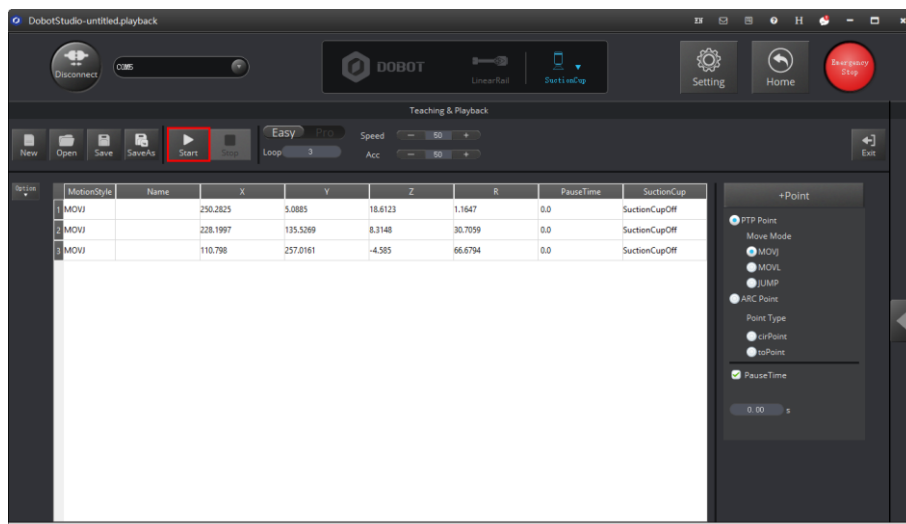

Figure 2.25 Click Start
- Click **Start** to perform the motions taught above, as shown in Figure 2.25. The robotic arm will stop after playing back the steps for three times.